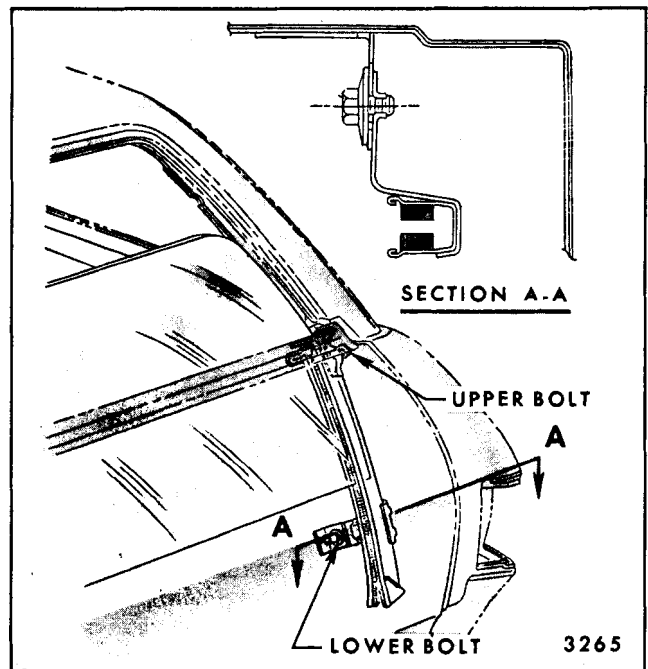

Fig. 9-34-Tail Gate Lower Glass Run Channel Attachment
3. Remove lower attaching bolt - accessible through inner panel access hole (Fig. 9-34).